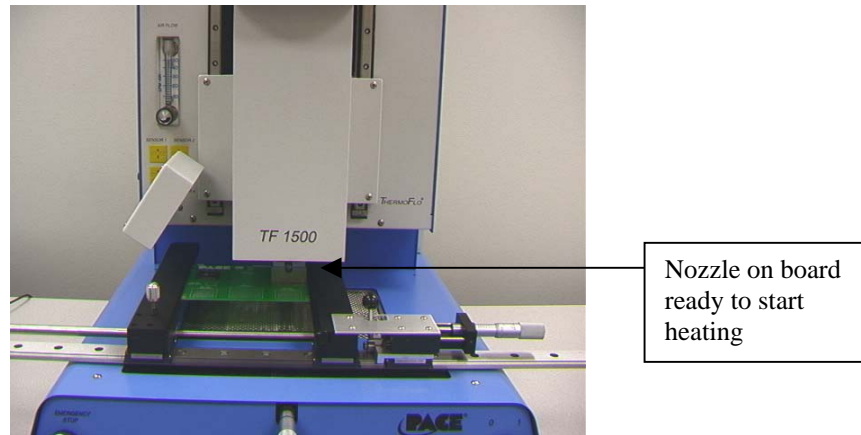

Figure 19
- xvi. Mouse click on the green button, "Place" to lower the component. (Figure 19)